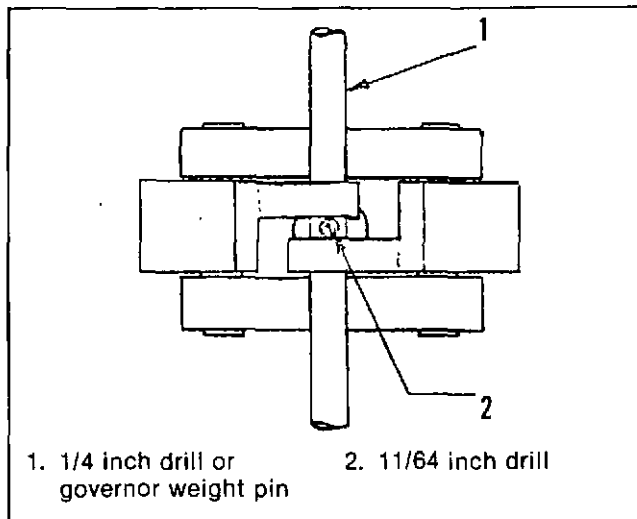

Fig. 3-5, (F5400). Check the governor weight pins for wear.
- b. Try to put a 11/64 inch [4.365 mm] drill bit down between the weight feet, Fig. 3-5.